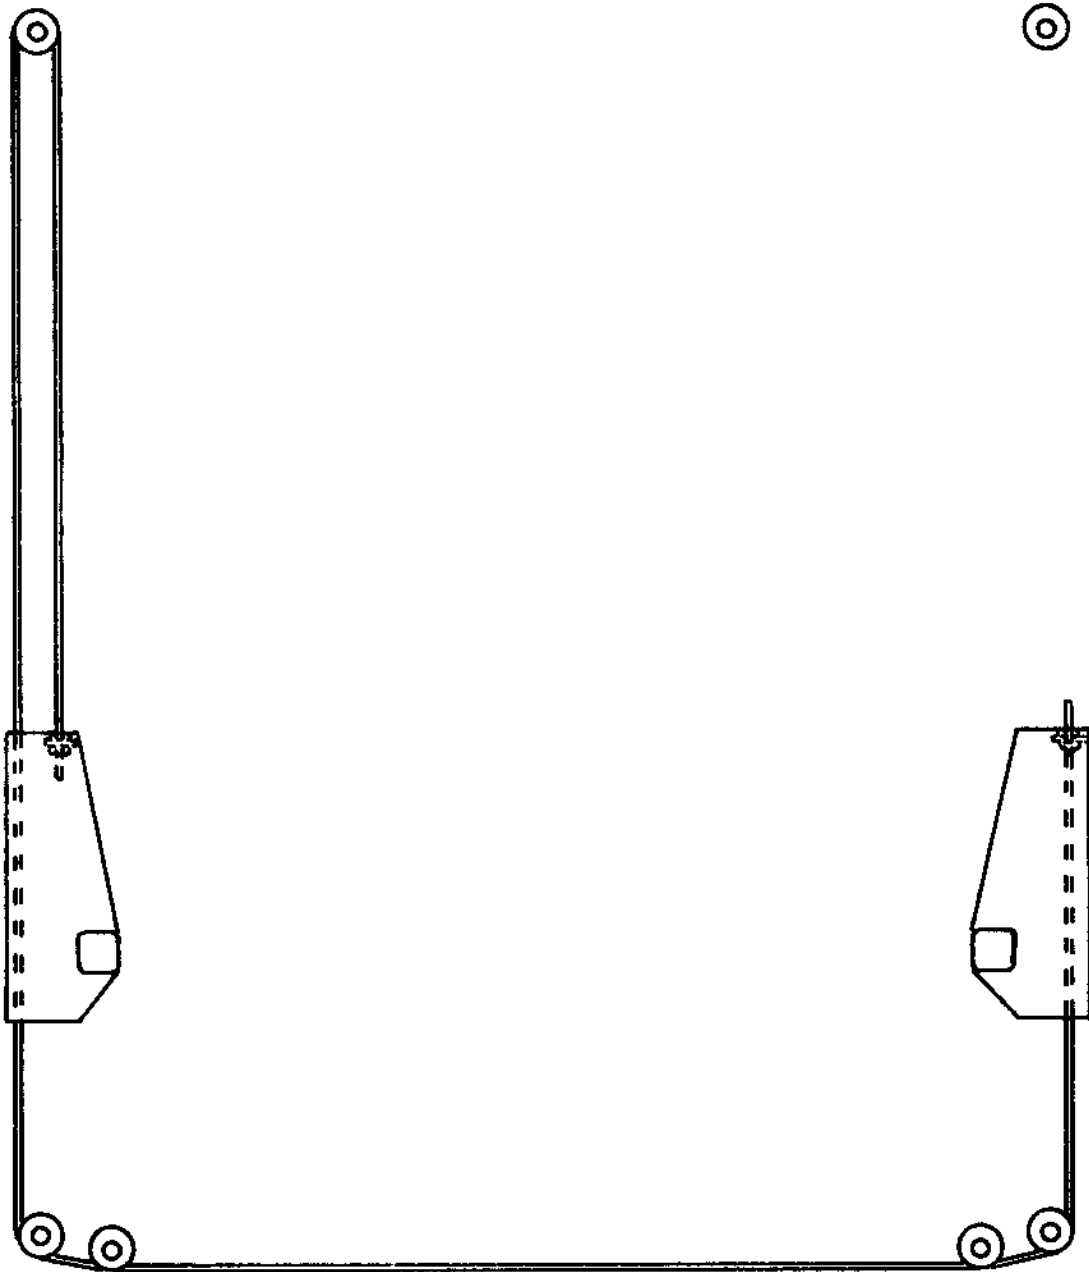

FIG. 15
20. Install cables as shown in figures 15 and 17. Adjust cable going to top of lift and back down into top of carriage in center of thread travel with jam nuts. Tighten top nut to remove slack and secure. Cable will fit into hole nearest center of lift.